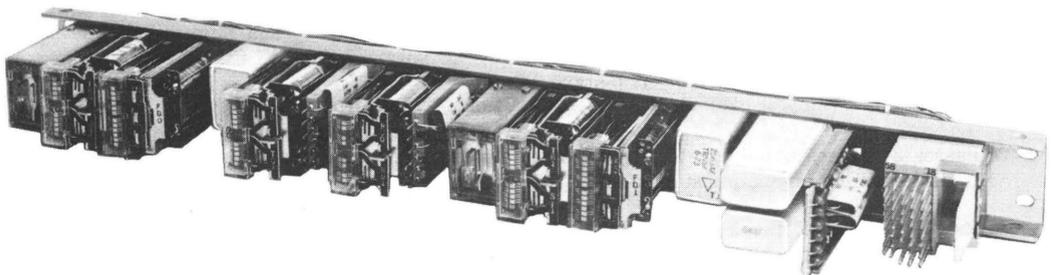

Fig. 1—J53050K Interconnecting Unit
- J53050K-1, List 1 Interconnecting Unit (one per two CO lines, Fig. 1)